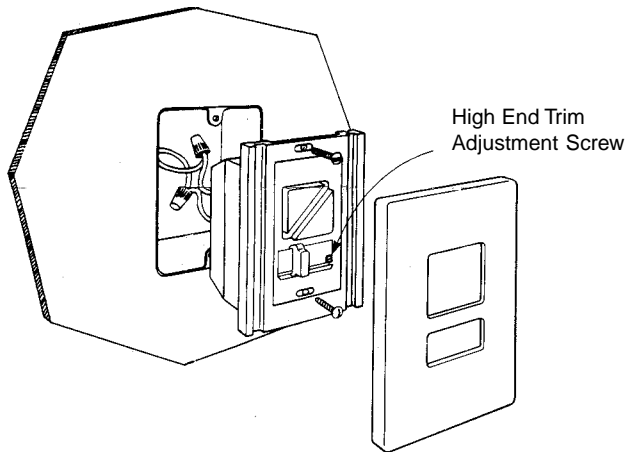

Figure 1
1. Carefully dress wires into switch box, install mounting screws, and secure LEQ LVBC firmly. See figure 1.
4. The high end trim adjustment screw (see figure 1) may be turned to limit the maximum output of the ballast. Turn counter clockwise with the slider at 100% until desired high end is achieved.